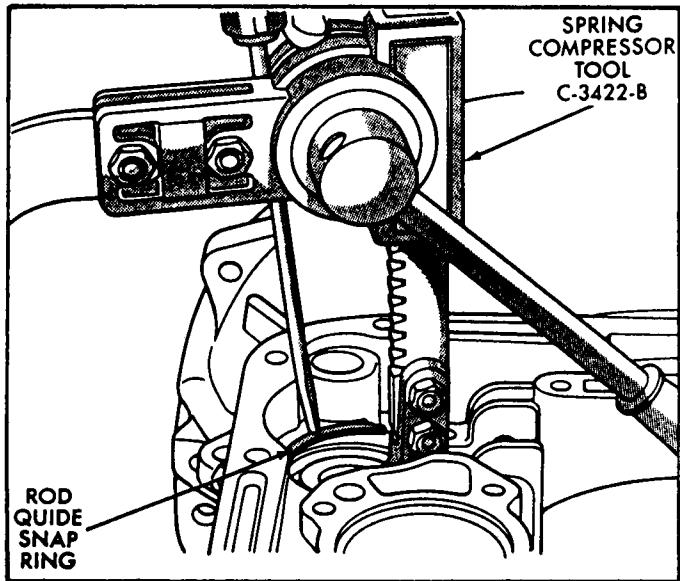

Figure 30
47. Compress front servo rod guide about  $1/8"$  with compressor, as shown in Figure 30, and remove snap ring.